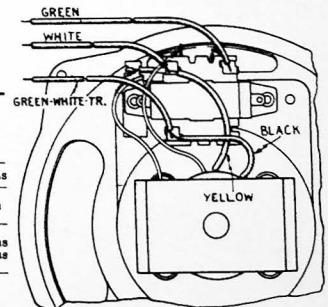
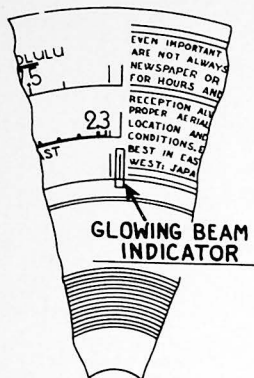
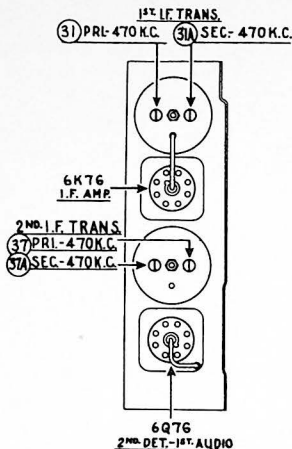

**Fig. 1. Socket Voltages**
Fig. 2—Dial Calibration
Fig. 3—Locations of I. F. Compensators
Fig. 1 shows the Voltage measurements taken from the bottom of the socket at each contact. In Fig. 2, the correct position of the dial indicator, for proper adjustment of the compensator condenser is shown. Fig. 3 and 4 are the locations of the I. F. and R. F. compensators respectively.
Philco Fibre Handle Screw-driver No. 27-7059 completes the necessary equipment for these adjustments. The locations of the various compensators are shown in Figs. 3 and 4.
**Dial Calibration**—In order to adjust this receiver correctly, the dial must be aligned to track properly with the tuning condenser. To do this, rotate the tuning condenser control to the extreme counter-clockwise position (maximum capacity). Loosen the screw of dial hub, then turn dial until the glowing indicator is centered on the first index line of dial scale (see Fig. 2). Now tighten the dial hub set screw in this position.